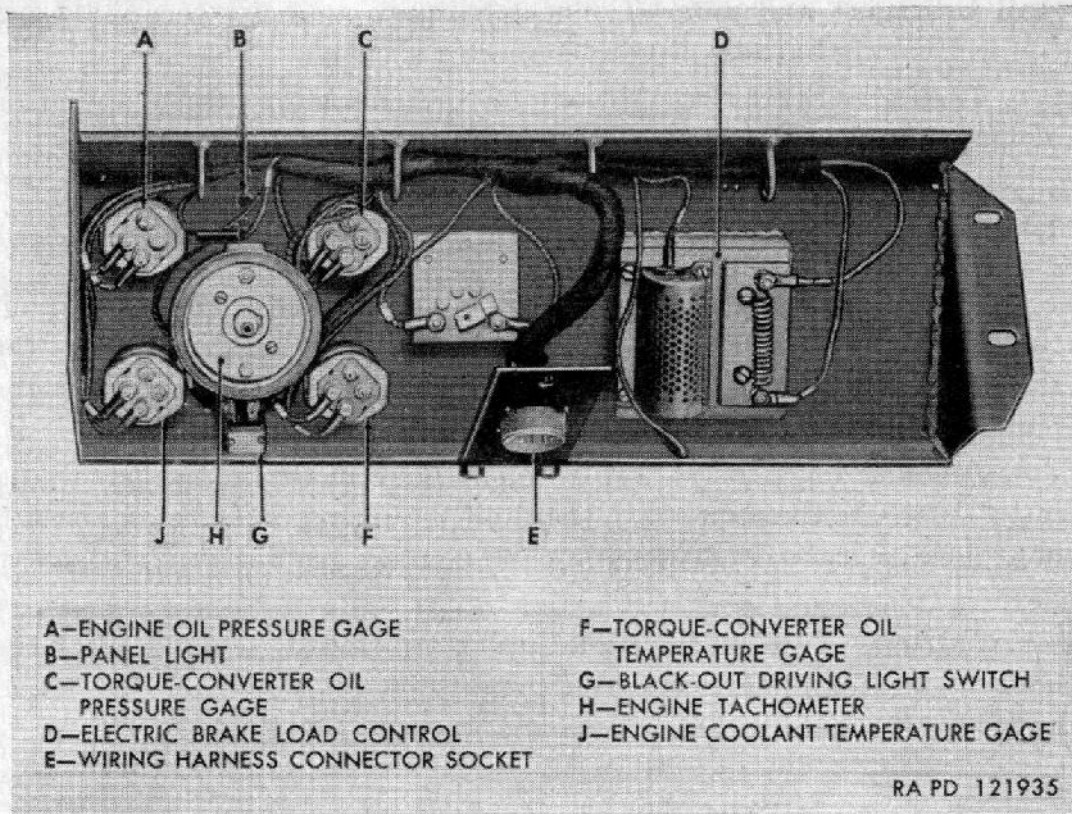

Figure 88. Left instrument panel removed.
a. Removal. Unscrew the retaining nut and flexible shaft assembly from the tachometer head. Remove the two nuts from the mounting bracket and remove bracket and tachometer from instrument panel (fig. 88).
a. Removal. The gages are held in the instrument panels by U-brackets through which bolts and terminals of the gages extend. Remove gages by removing nuts from mounting bolts and terminals; then remove U-bracket and gage (fig. 88).
a. Removal. Removal of the oil pressure gages (fig. 88) is the same as the removal of the engine temperature gage (par. 147a).
a. Removal. Removal of the torque converter and transmission oil pressure gages is the same as the removal of the engine temperature gage (par. 147*a*) (fig. 88).
a. Removal. Removal of the torque converter and transmission oil temperature gages is the same as the engine temperature gage (par. 147*a*) (fig. 88).